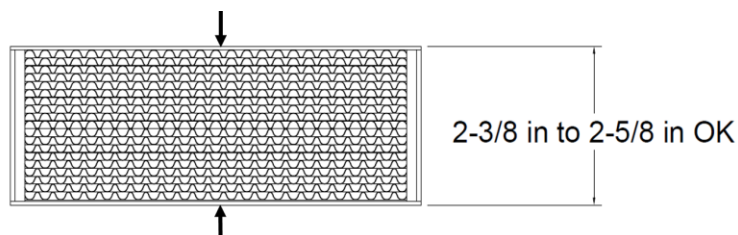

Figure 17 - Acceptable Catalytic Distortion
7. Some warping or bowing of the catalysts over time is acceptable, as long as the catalyst gasket continues to seal. Measure the catalysts in the middle section – if the dimensions are outside the range shown in Figure 17 below, replace the catalysts.